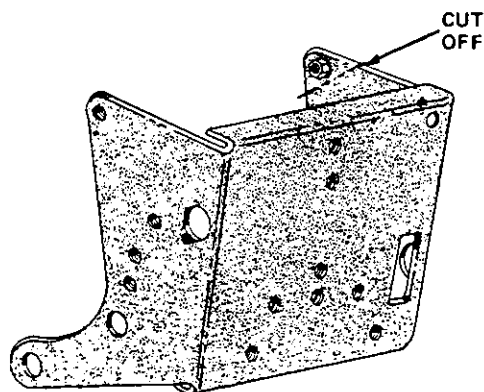

FIGURE 16—Model 482, 580 (IH-582 Special) and 1604 only.
12. **Model 480, 580 (IH-582 Special) and 1604 tractors only:** Cut 1-1/2" to 2" off the upper right hand "ear" of the three point hitch plate so that it will clear the clutching spring mounting bolt. See figure 16.